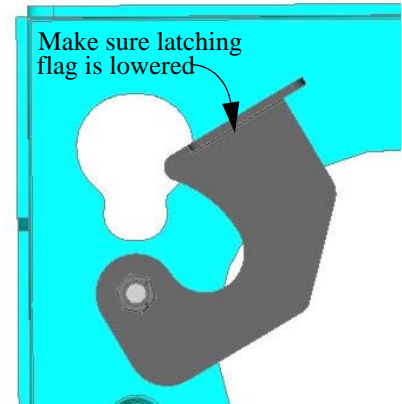

FIGURE 1. LOWER LATCH
2. Before lifting your flat panel display, make sure the latch of the PWL/PWP is lowered and will not interfere with mounting the plasma (see Figure 1).